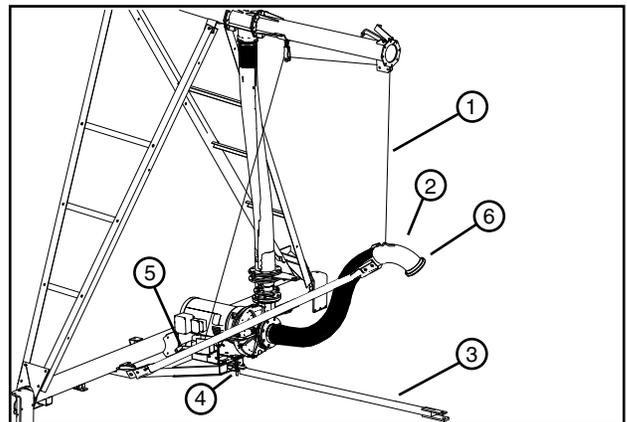

Figure 83-3 1. Lift Cable 2. Elbow Inlet 3. Tongue 4. Torque Pin 5. Cable Lift Handle 6. Disconnect Point
- Attach the tongue to the hose pull frame with torque pin. See Figure 83-3.